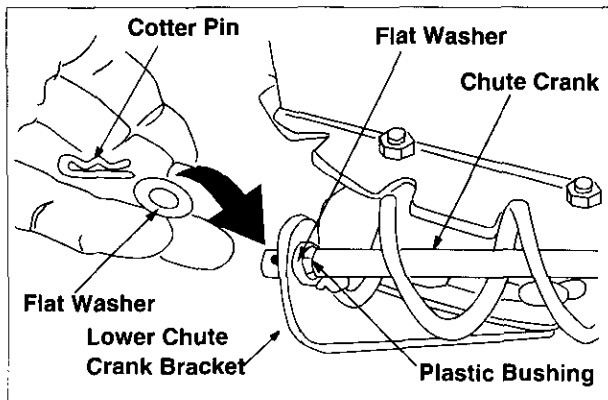

Figure 7
- Place one 3/8 ID flat washer (from group G of the hardware pack) on the end of the chute crank, then insert the end of the crank into the eye hole in the plastic bushing in the chute crank bracket. See Figure 7.
chute crank and insert hairpin clip into eye hole at the end of the chute crank. See Figure 7.